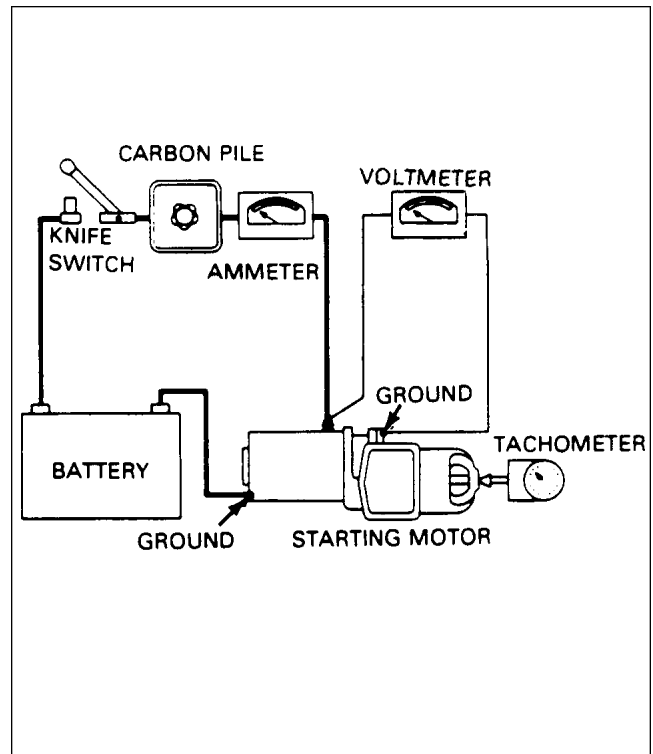

Figure 11-53. No Load Test Hookup
- a. After starting motor is assembled test to see that the no-load current at a certain voltage is per specifications in starting motor service test specifications. To test, connect as shown in figure 11-53. If current is too high, check bearing alignment and end play to make sure there is no binding or interference. Two or three sharp raps on frame with a rawhide hammer will often help to align bearings and free armature.